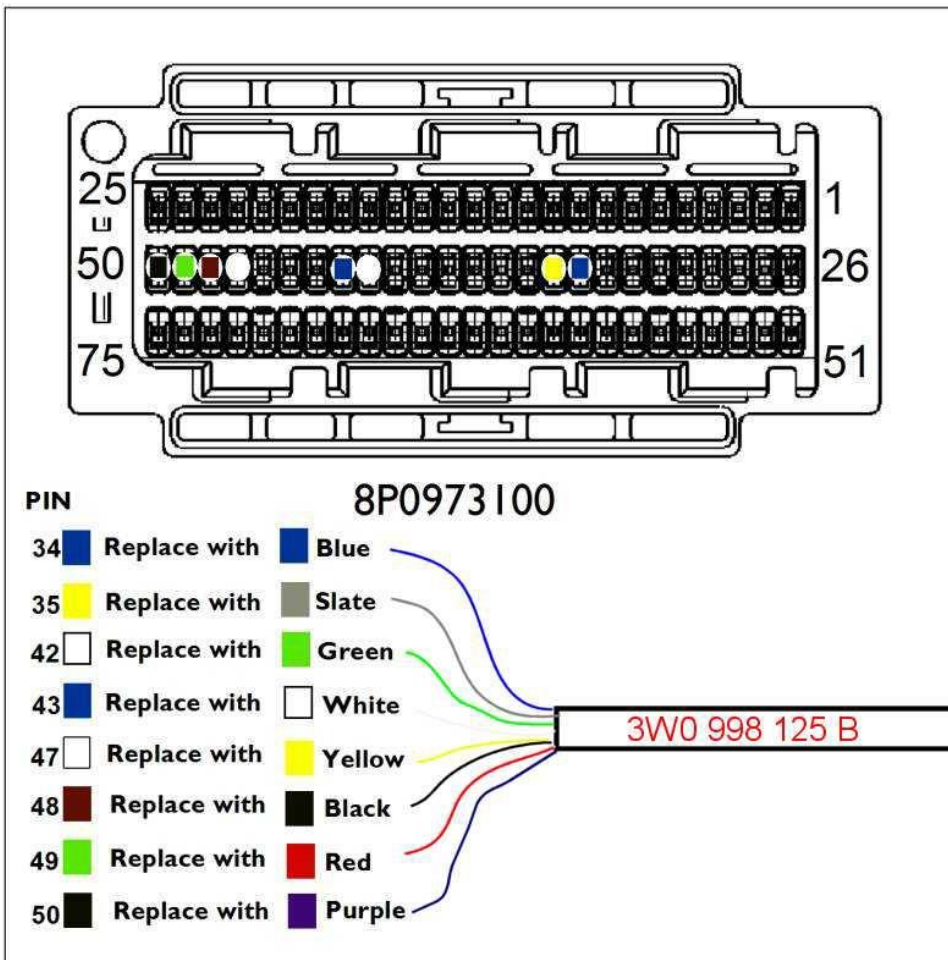
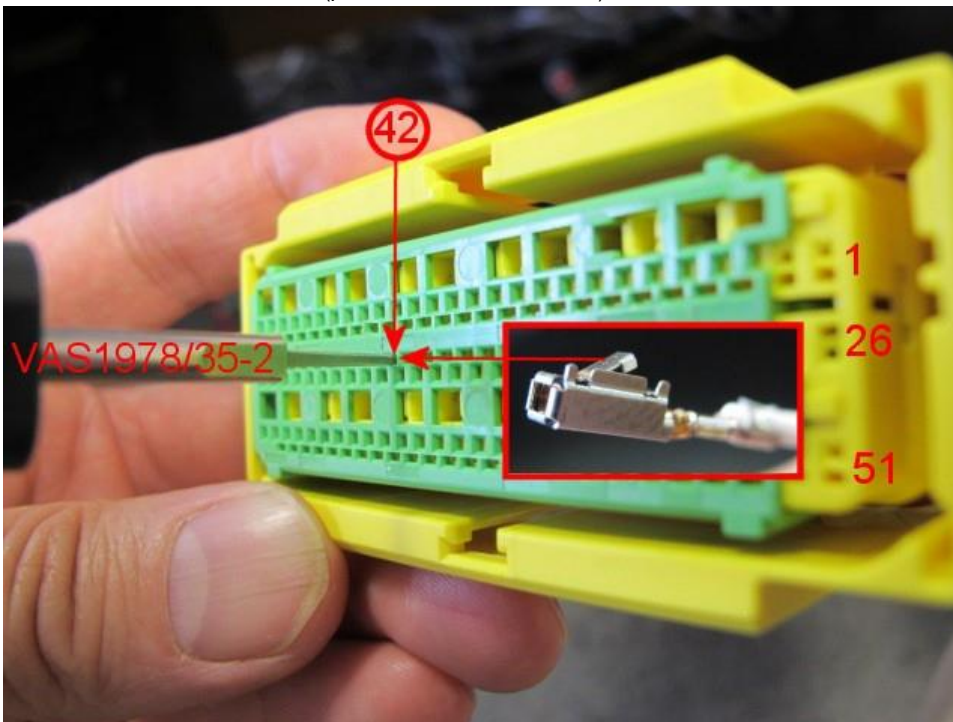

Figure 13
Figure 14
22. Identify the eight wires that have to be removed from the housing (see Figure 13). Note: figure 13 shows the connector face (not cable entry). The left hand list and the plug detail depicts the cable colours originally in the harness. The new cable colours are shown associated with the new harness (part number 3W0 998 125B)
Note: A sample of vehicles may have the white and brown cables in cavity 47 and 48 transposed this is expected and despite this the new harness cables should be inserted into the cavities as shown in figure 13. This is the yellow in cavity 47 and the black in cavity 48
24. With the new harness in position fit each of the eight new wires in turn into the correct cavities as detailed in figure 13. Note: the correct orientation of the locking lance when fitting the new terminals into the centre row of cavities in the housing (see Figure 14)
25. Re check that you have correctly populated the air bag control module terminal housing (see Figure 13 and 15)